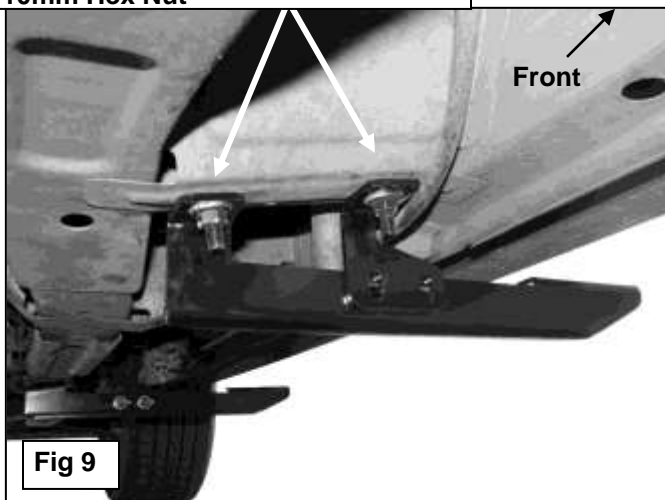

Fig 9
6. Select the driver side Center Support Bracket. Hang the Support Bracket from the outer Bolt Plate with (1) 10mm x 27mm Large Flat Washer, (1) 10mm Lock Washer and (1) 10mm Hex Nut, **(Figure 8)**. Leave loose at this time. Next, repeat to attach the driver side Center Bracket to the inner 10mm Bolt Plate, **(Figure 9)**. Leave hardware loose at this time.